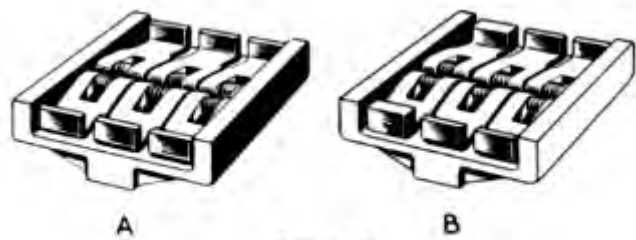

Figure 13
When replacing the sliding block in a 1935 Hudson or Terraplane use Part No. 48745 which has all of the contact fingers of equal thickness as shown at (A), Figure 13. The need for replacement will be due to bent or worn fingers.
When replacing the sliding block in a 1936 Hudson or Terraplane use Part No. 152197 which has two fingers which are thicker than the other four as shown at (B), Figure 13.